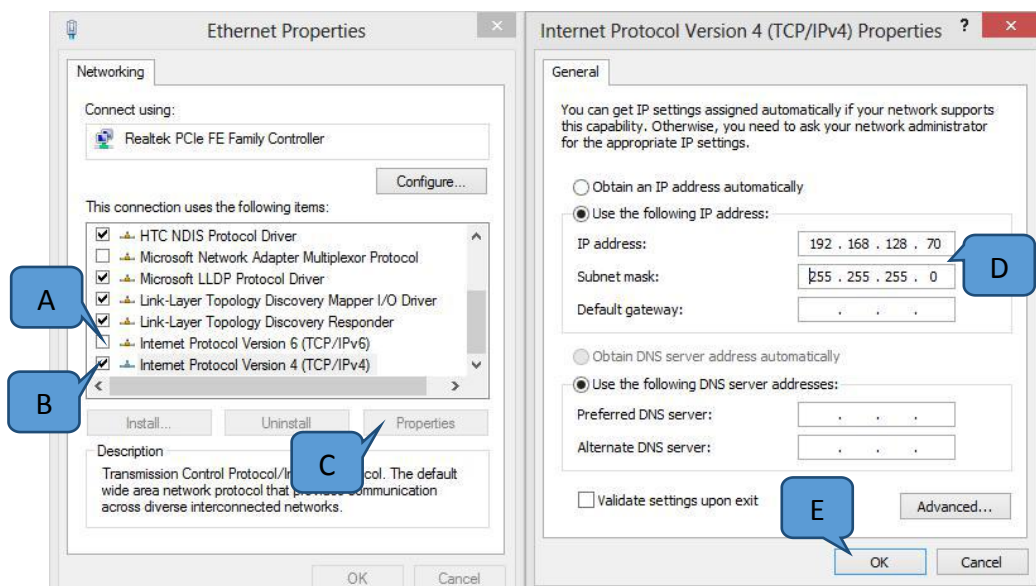

Figure 19 (Only for V810 Series 2)
19. V810 Series 2, set the Ethernet configuration as Figure 19.